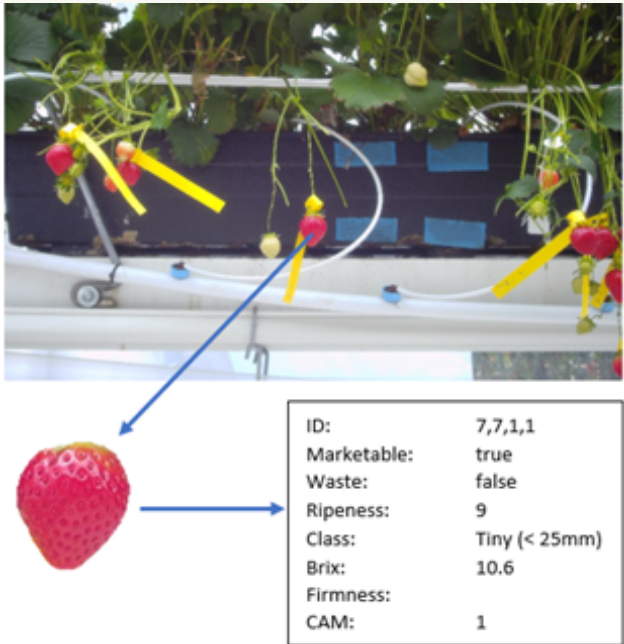

Figure 2: Example of a branch in RGB with a segment and its measurements
- In figure 2 an image is shown. Using the provided polygons we can get the segment with the corresponding labels out.